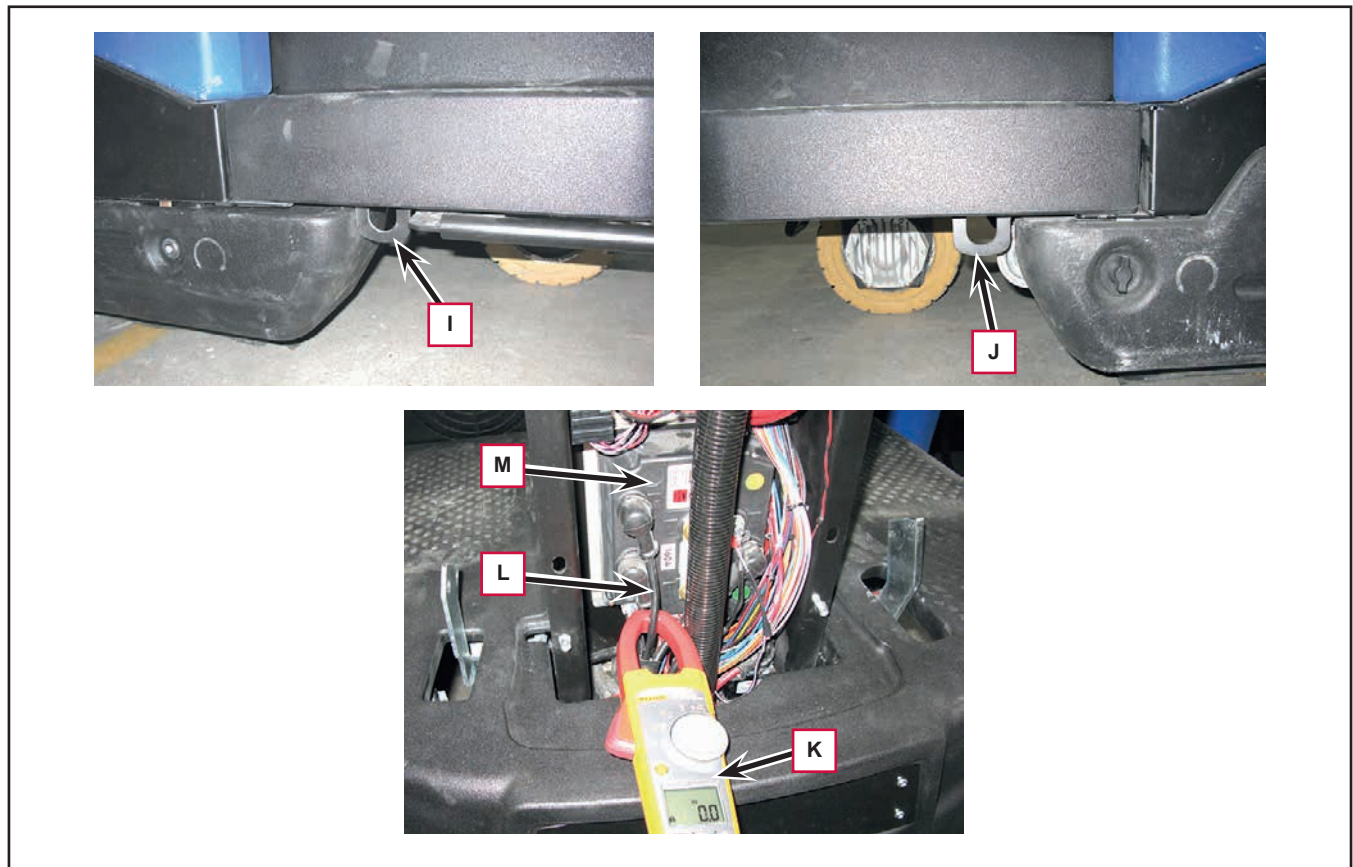

Figure 5
8. For safety purposes, to prevent accidental lowering of the machine, apply two suitable spacers under the right (I, Figure 5) and left (J) side brackets.
9. Working on the drive board (M), apply the ammeter clamp (K) to the drive motor electrical cable (L).